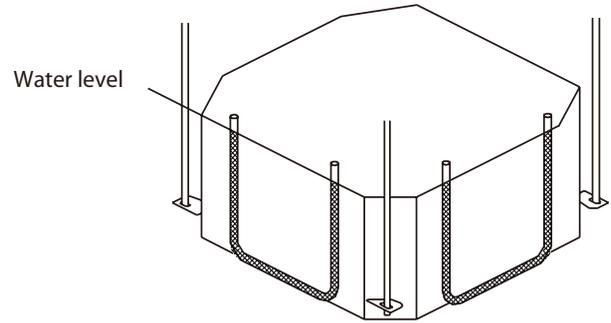

**Fig. 4.6**
**NOTE:** The bottom of the unit should be 24mm (0.9") higher than the ceiling board. Generally, L (indicated in Fig. 4.6) should be half the length of the suspension bolt or long enough to prevent the nuts from coming off.